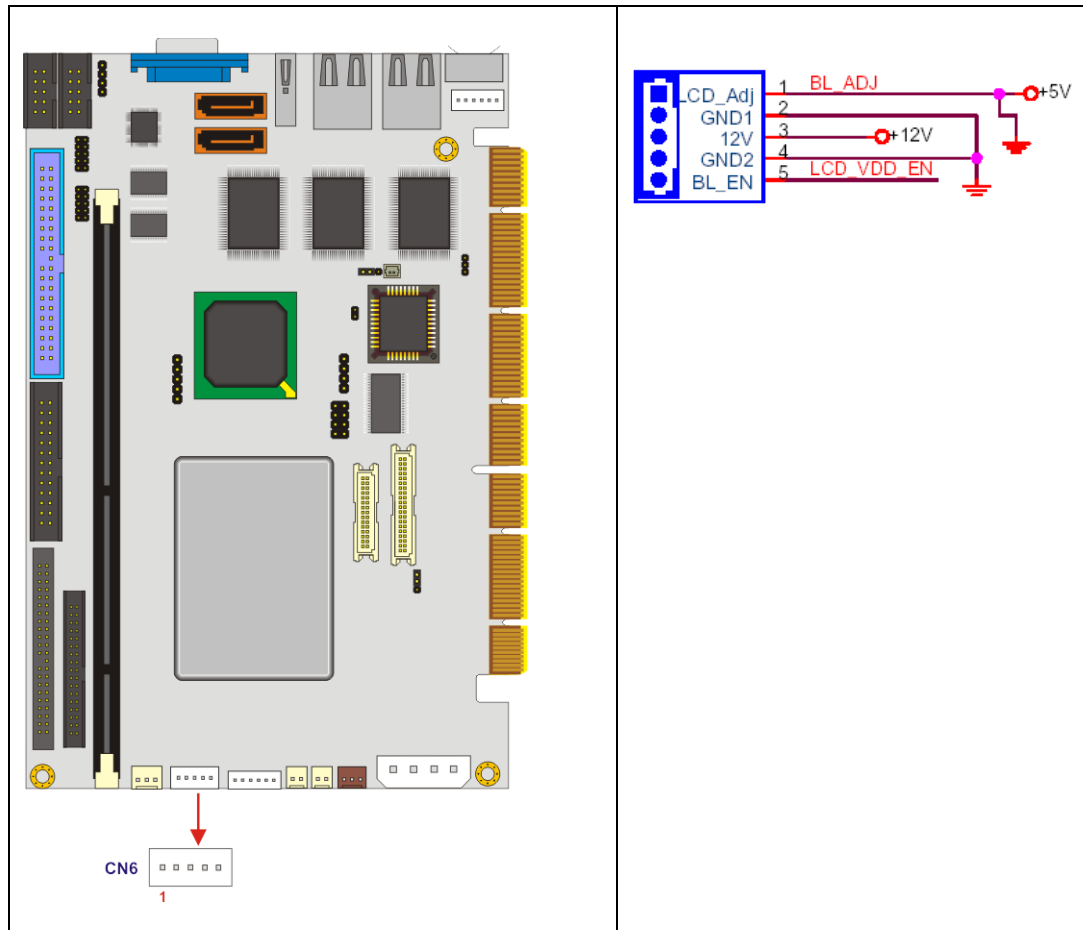

Figure 3-13: Inverter Connector Location
- CN Location:** See **Figure 3-13**